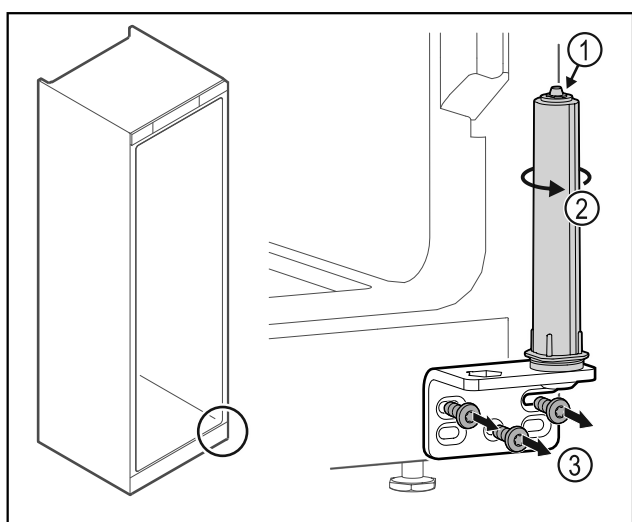

Fig. 31
- ▶ Do not disassemble the door closing system Fig. 31 (1).
- ▶ Turn the closing system Fig. 31 (2) until it clicks.
- ▶ Unscrew the hinge Fig. 31 (3).